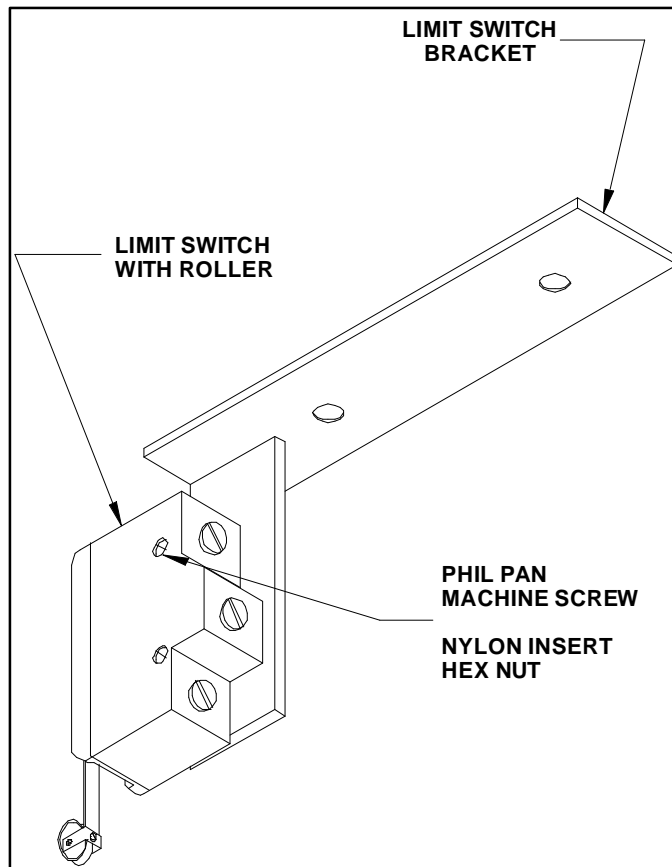

FIGURE 2-5: LIMIT SWITCH ATTACHMENT TO BRACKET
6. Refer to **Figure 2-5**. Using the two machine screws and hex nuts provided, attach the limit switch (with roller) to limit switch bracket.